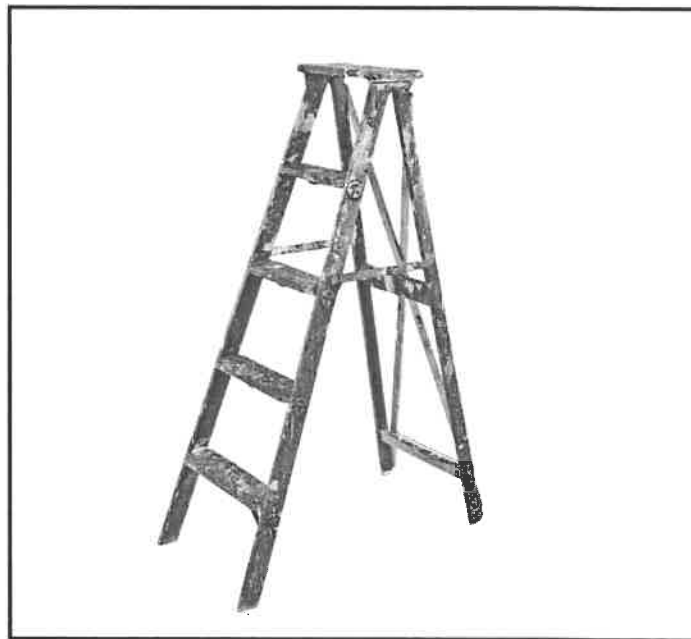

FIGURE 1.2
1.2 FIGURE 1.2 below shows a ladder that is used on a construction site.